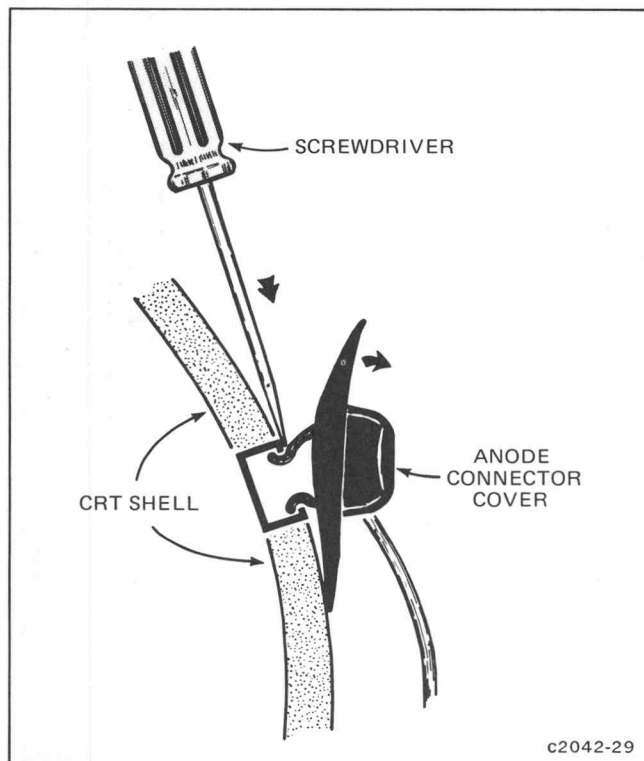

Fig. 4-9. Crt-anode connector removal and installation.
2. Disconnect crt-anode connector. See Figure 4-9.
4. Disconnect crt-anode lead. See Figure 4-9.